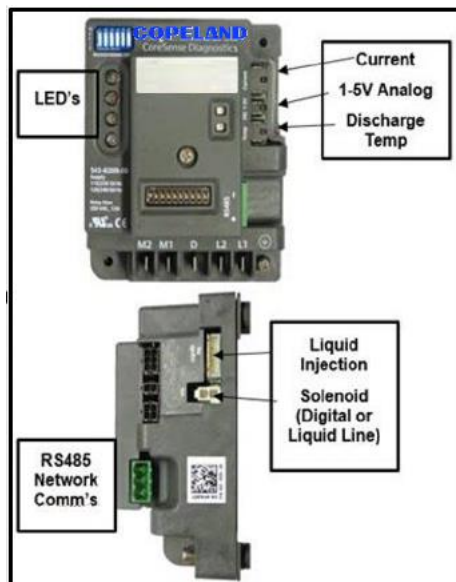

Figure 1 – CoreSense Diagnostics Module
This connector is where the current transducer (CT) is plugged into the CoreSense module. In **Figure 1**, this input is labeled 'Current'. For 7.0 – 17 HP models, the minimum compressor running current is 3 Amps, and for the 2.0 – 7.5HP compressors, it is 1 Amp. This input is used to tell the CoreSense module the running state of the compressor. Compressor protective alert codes, injection, and modulation control will only be active when the current transducer is plugged in and current is sensed through the CT.
In **Figure 1**, the discharge temperature thermistor input is labeled 'Temp'. CoreSense can utilize both discharge line temperature probes and top cap probes for various compressor applications. When the probe is plugged into the thermistor input, the CoreSense module identifies the probe type (line or top cap) based on pin locations. Refer to **Table 6** and **Table 7** for specific probe part numbers. Please note that only a top cap temperature probe can be used for low temp models using liquid injection. If a line probe is used, an error code will occur.
The CoreSense module can also provide liquid injection for Low Temp Scroll compressors. This connector is a 12VDC output to a stepper motor that drives the EXV that is plumbed to the compressor. In **Figure 1**, this output is labeled 'LIQUID INJ'.